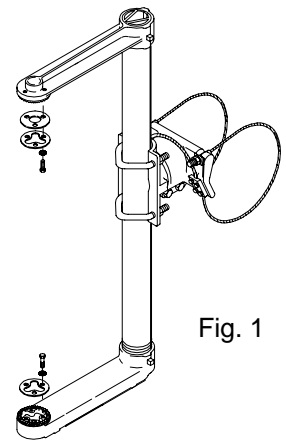

Fig. 1
1. **ADJUSTABILITY:** The bracket shall be completely adjustable such that it combines all four (4) of the adjustments indicated above as A through D.
3. **SIGNAL ACCOMMODATIONS:** The bracket shall attach to the signal in a clamping manner holding the signal both top and bottom in order to assure maximum rigidity. A standard bracket (Figure 1) shall accommodate all major signal manufacturer's signals from a three (3) Section 1-Way (inline) 8" and 12" Signal through a five (5) Section 1-Way 12" Signal and any combination thereof including 3M and ICC configurations.
3. **SIGNAL ACCOMMODATIONS:** The bracket shall attach to the signal in a clamping manner holding the signal both top and bottom in order to assure maximum rigidity. A standard bracket (Figure 1) shall accommodate all major signal manufacturer's signals from a three (3) Section 1-Way (inline) 8" and 12" signal through a five (5) Section 1-Way 12" Signal and any combination thereof including 3M and ICC configurations.